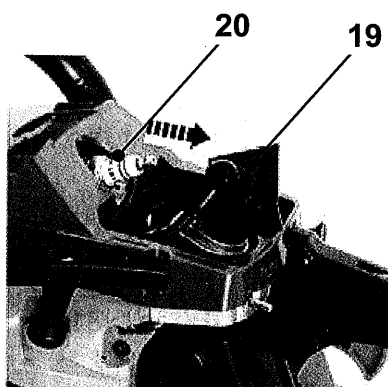

Fig. 51
2. Disconnect the spark plug connector **(19)** (Fig. 51).